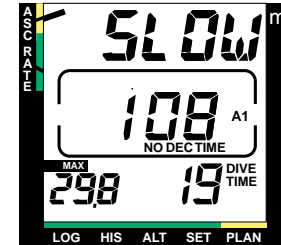

Fig. 3.13 ASCENT RATE INDICATOR
- the maximum allowed ascent rate, 10 m/min [33 ft/min], is exceeded. A blinking SLOW warning will alternate with the depth display (Fig. 3.13). LUX S model gives also an audible alarm; continuous beep.